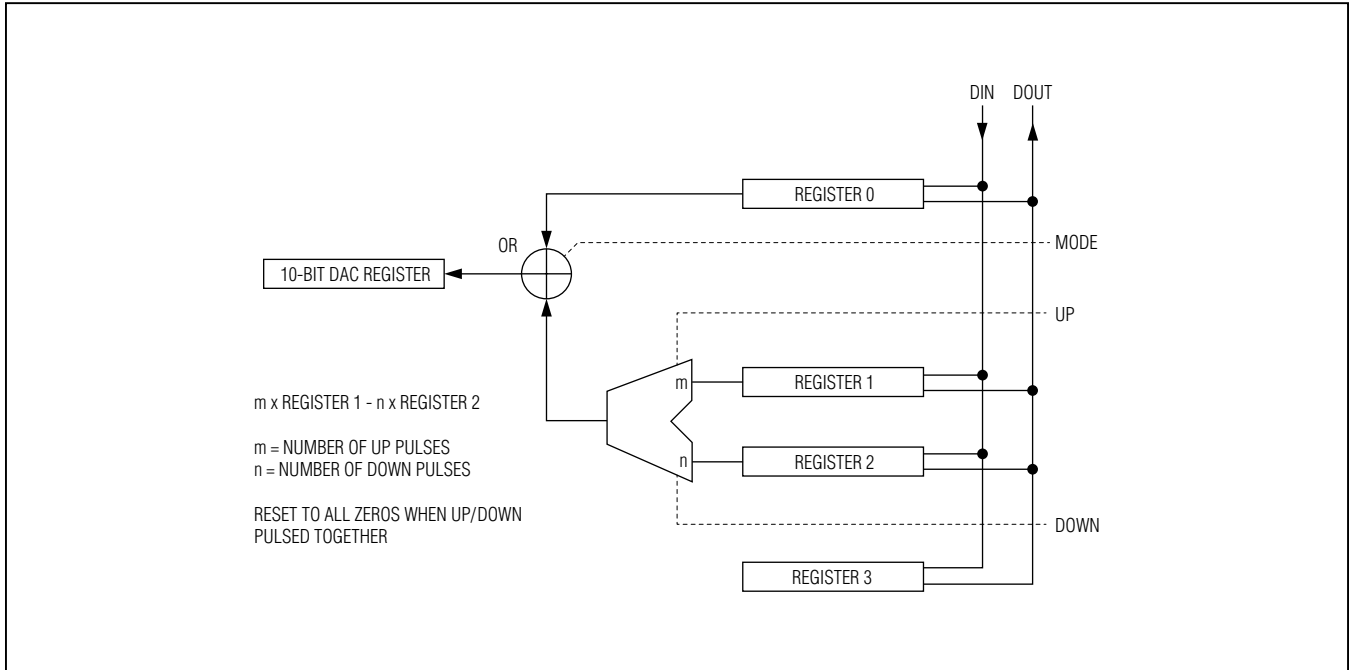
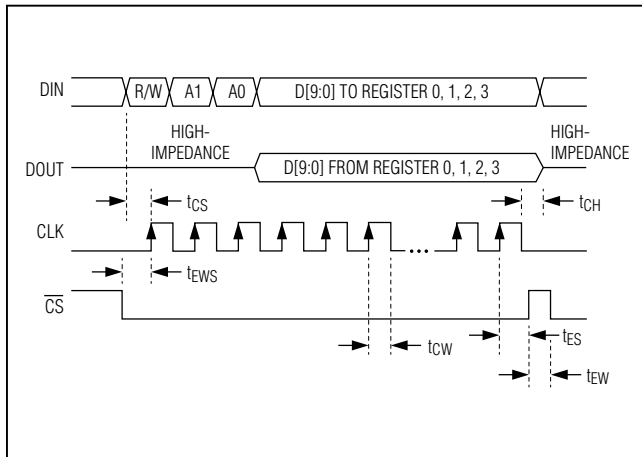
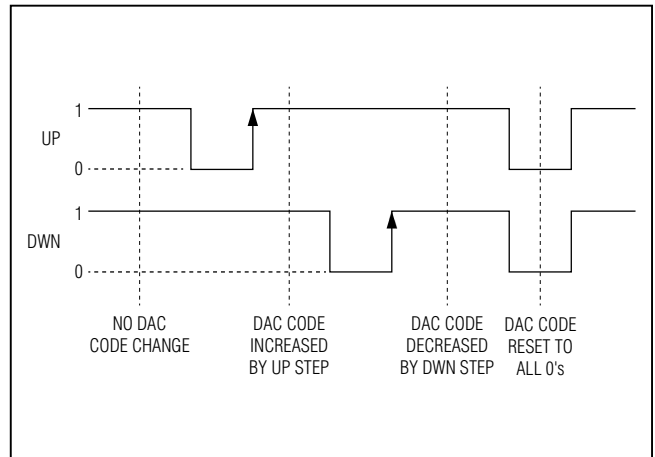

Figure 1. Register Configuration Diagram
Figure 2. SPI Timing Diagram
Figure 3. UP/DWN Control Diagram (MODE = 1)
Figure 1 shows the configuration of the internal registers of the device and Figure 2 shows the timing of the SPI bus. Register 0 sets the DAC code to the desired value, register 1 selects the step-up code, and register 2 selects the step-down code.
After powering up the device, UP and DWN should both be set to 0 to reset the m and n counters to 0. This results in a 10-bit all 0 code out of the mathematical block in Figure 1, and applied to the 10-bit DAC register that drives the DAC. To increase (decrease) the code using the UP (DWN) pin, the DWN (UP) pin must be high and the UP (DWN) pin should be pulsed low to high. The device is designed to produce no wraparounds when using UP and DWN stepping so that the DAC code maxes out at 1023 or goes no lower than 0. See Figure 3 for the UP and DWN control operation.
The device can be controlled with a 4-wire, SPI-compatible serial interface. Figure 2 shows a timing diagram for the interface. In the write mode, a 13-bit word is loaded into the device through the DIN pin, with  $\overline{\text{CS}}$  set low. The first bit of the word in the write mode is 0, and the next two bits select the register to be written to (Table 2). The next 10 bits contain the data to be written to the selected register. After the 13 bits are shifted in, a low-to-high  $\overline{\text{CS}}$  command is applied and this latches the 10 bits into the selected register. The entire write command is ignored if  $\overline{\text{CS}}$  is pulsed low to high before the last data bit is successfully captured.
| Logic 0 pulse | Logic 1       | Increase the DAC code* by the amount located in register 1. UP is pulsed from high to low to high (see Figure 3).  |
| Logic 1       | Logic 0 pulse | Decrease the DAC code* by the amount located in register 2. DWN is pulsed from high to low to high (see Figure 3). |